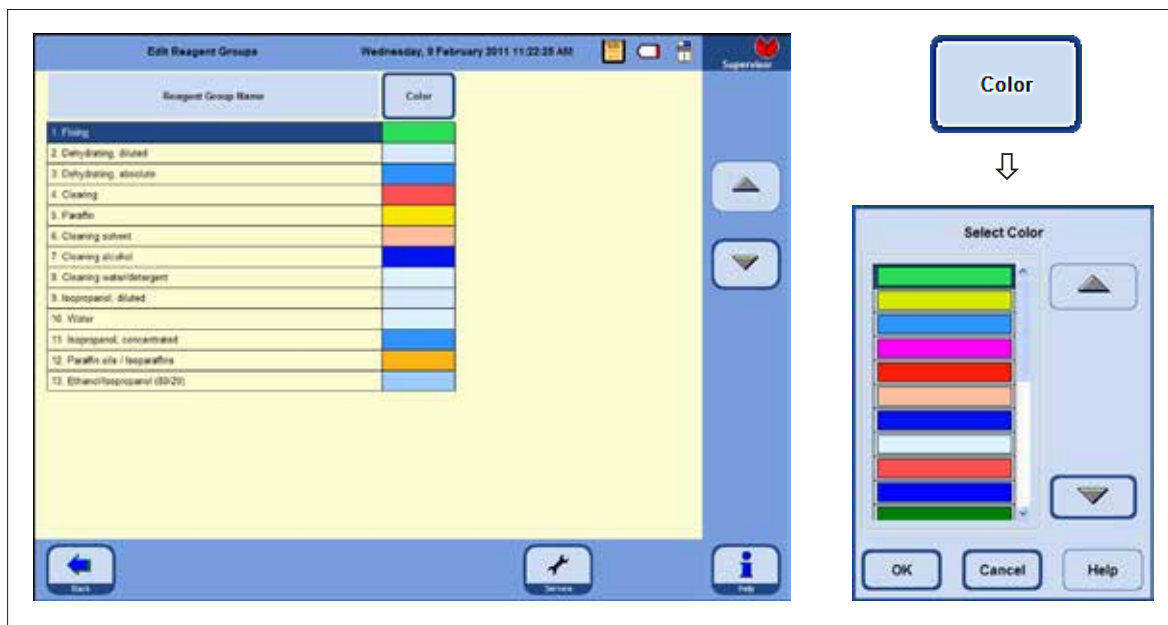

Fig. 148
In the **EDIT REAGENT GROUPS** window (Fig. 148) you can select the colors to be used for each reagent group in the program display.
- Press the **COLOR** button in the table header; the **SELECT COLOR** window appears (Fig. 148).